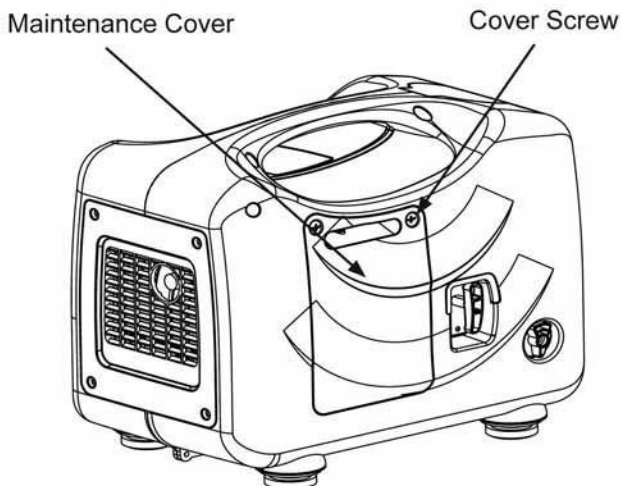

Fig. 3.0
1. Loosen the cover screws and remove the maintenance cover (Refer to Fig. 3.0 for HY1000Si and Fig. 3.1 for HY2000Si HY3000Si)